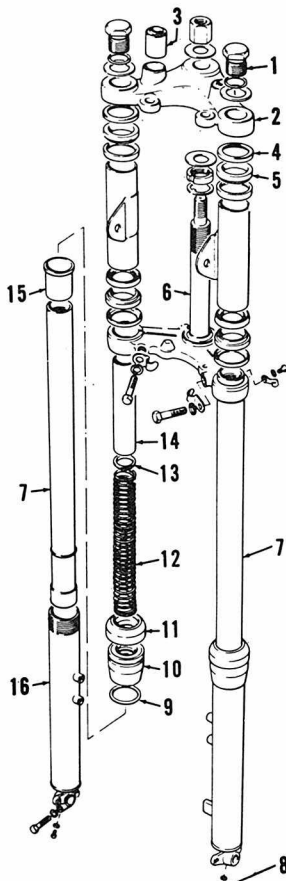

Fig. S6-9—Exploded view of front suspension system used.
outer tube nut (10—Fig. S6-9) in a vise and turning the outer tube (16).